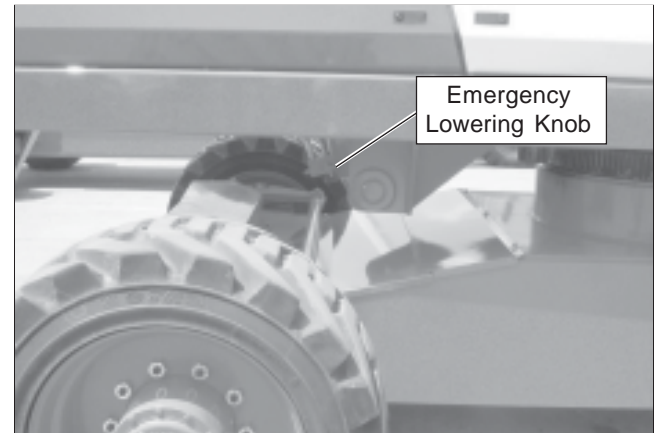

Figure 7.13 – Emergency Lowering Knob
3. Slowly turn the knob (refer to Figure 7.13) counter-clockwise to open the bleed down valve. The boom should slowly lower by gravity.